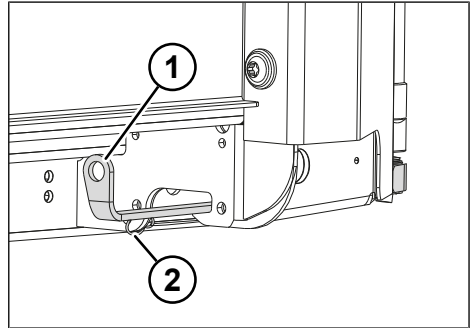

Fig. 6-21: Version 1 tension lever
- ▶ Hook on the retainer hook (see "Fig. 6-21: Tension lever", pg. 78).